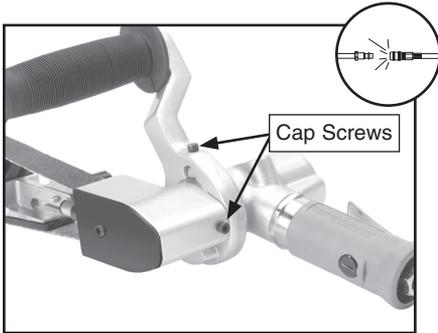

Figure 10. Sander adjustments.
1. Loosen the cap screws shown in **Figure 10**.